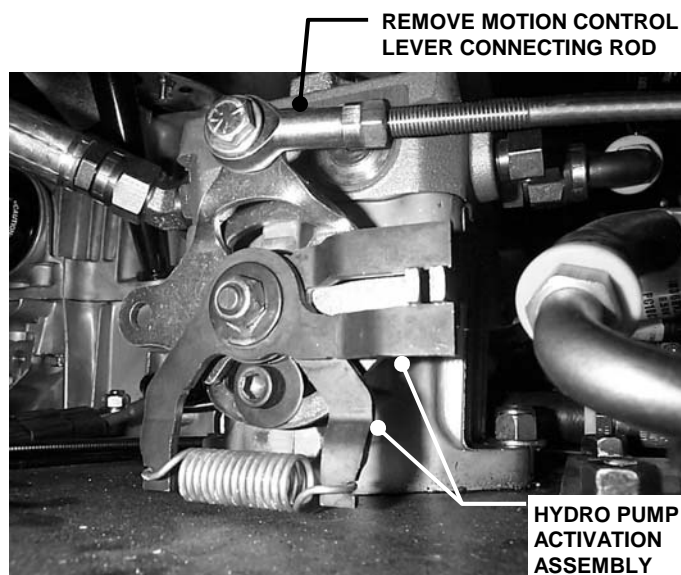

FIGURE 5.2
6. Disconnect motion lever connecting rods from hydro pump activation assembly. See Figure 5.2.